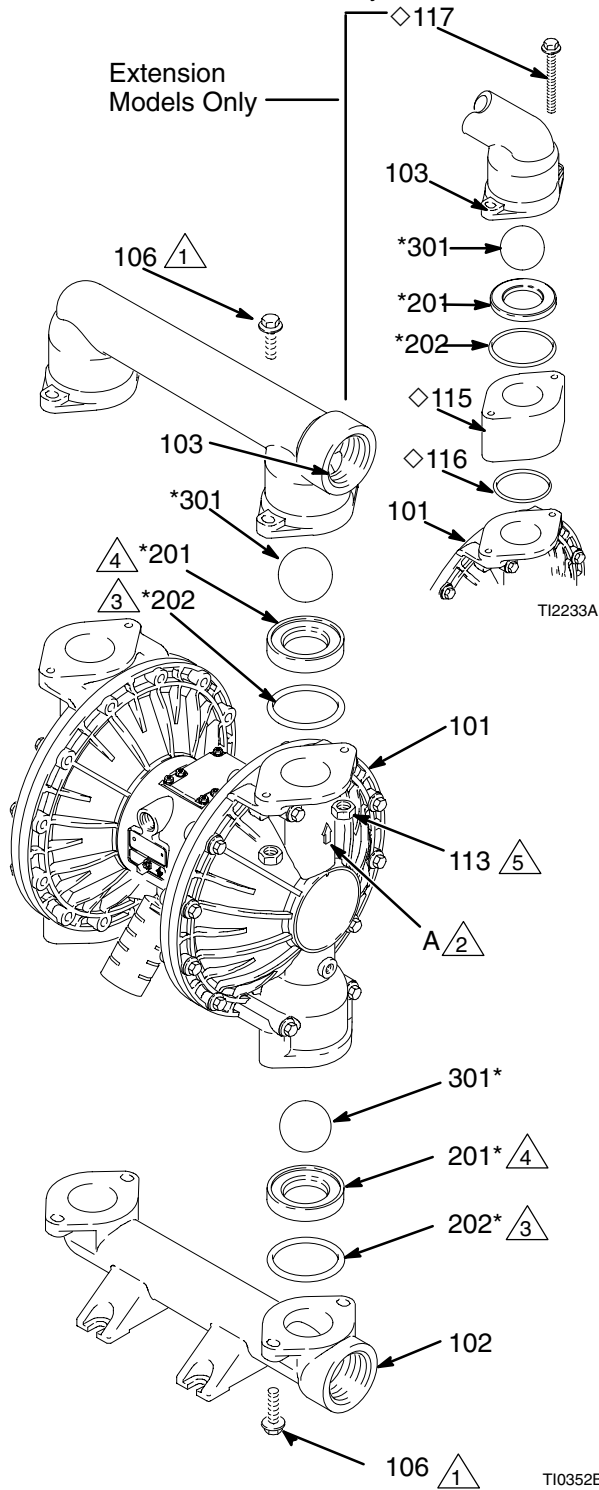

Fig. 10
3. Using a 10 mm socket wrench, remove the four bolts (106) holding the outlet manifold (103) to the fluid covers (101). See Fig. 10.
4. Remove the seats (201), balls (301), and o-rings (202) from the manifold.
2. Reassemble in the reverse order, following all notes in Fig. 10. Be sure the ball checks are assembled **exactly** as shown. The arrows (A) on the fluid covers (101) **must** point toward the outlet manifold (103).
- 2 Arrow (A) must point toward outlet manifold (103).
- 4 Beveled seating surface must face ball (301).